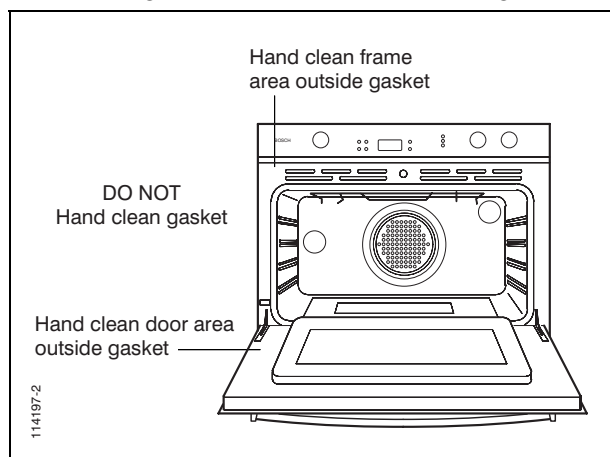

Figure 12.
Make sure oven is cool, then use warm soapy water. With a non-abrasive, plastic scrubbing pad clean the frame surface outside the door gasket area. This area must be cleaned by hand because the area outside the gasket does not get hot enough to burn off the soil (see Figure 12).
Make sure oven is cool, then use warm soapy water. With a non-abrasive, plastic scrubbing pad clean the area outside the door gasket area. This area must be cleaned by hand because the area outside the gasket does not get hot enough to burn off the soil (see Figure 12).
2. Clean soil from the frame around the door, outside the door gasket (see Figure 12). Do not clean the door gasket by hand as this